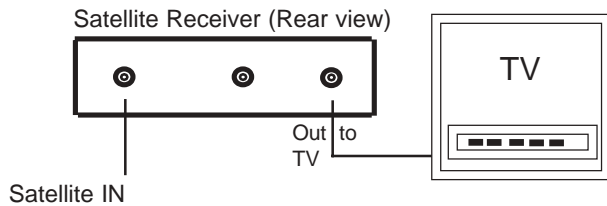

Figure 6
A. Connect the coax from “TV OUT” fitting on Receiver to the TV set (Fig. 6).